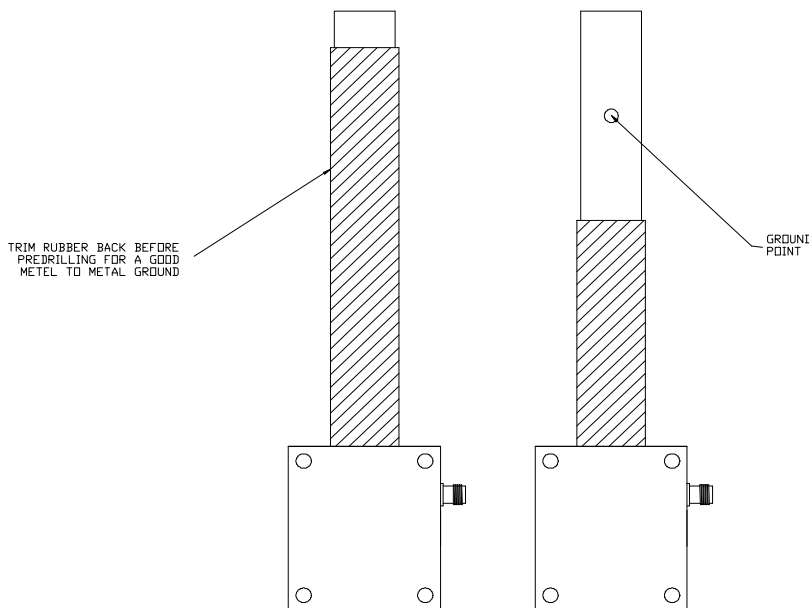

Figure 3 – Grounding Strap Preparation
1. Trim back the rubber insulation to expose the pre-drilled holes (Refer to Figure 3 – Grounding Strap Preparation).